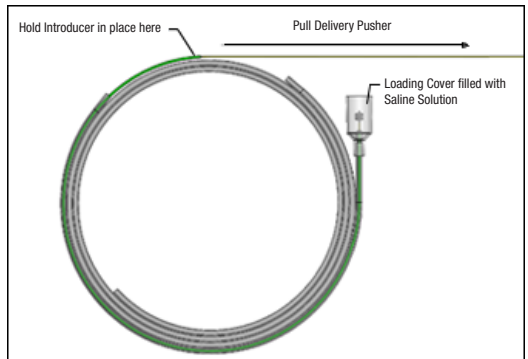

Figure 5 – Pull Delivery Pusher in Proximal Direction to Retract Implant
16. With one hand securing the green introducer, grab the delivery pusher and gently pull proximally to begin retracting the implant. See Figure 5.